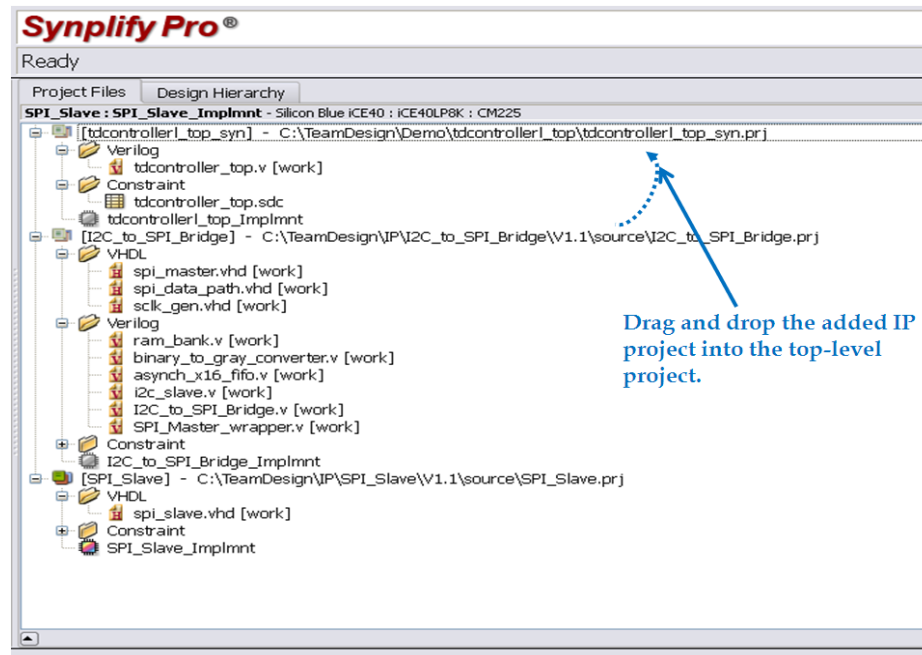
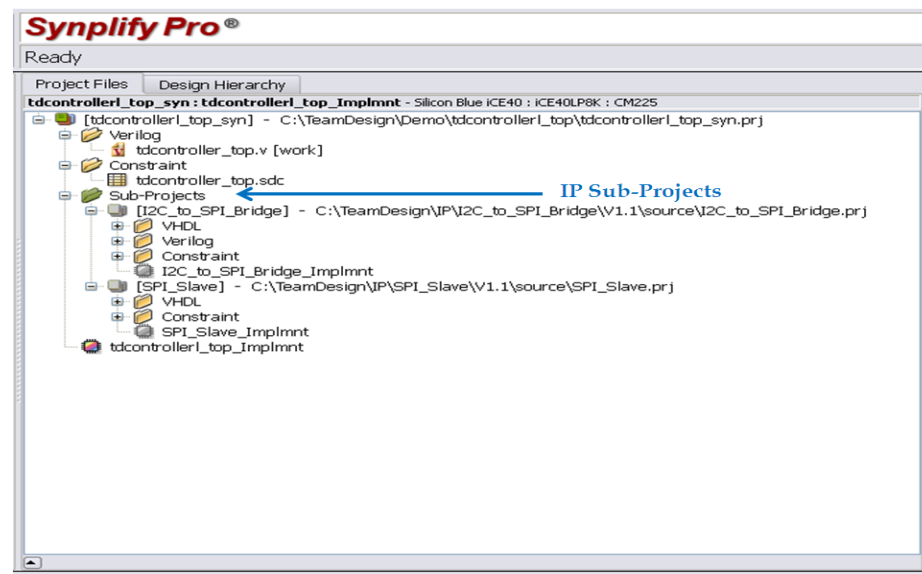

Figure 9-8 : Drag and drop the IP Project into Top-Level Project
Figure 9-9: Top Level Project Hierarchy with IP Sub-Projects
3. Drag and Drop the IP Project into the top level project as shown in Figure 9-8. This converts the IP Projects into a “Sub-Project” of the top level project as shown in Figure 9-9.